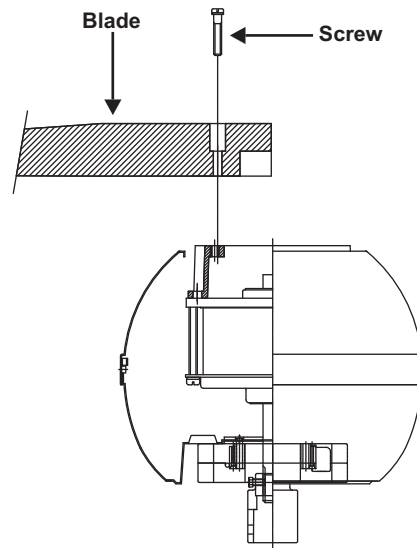

Figure 5
1. Fasten blade to motor using the screws supplied. (Fig. 5)